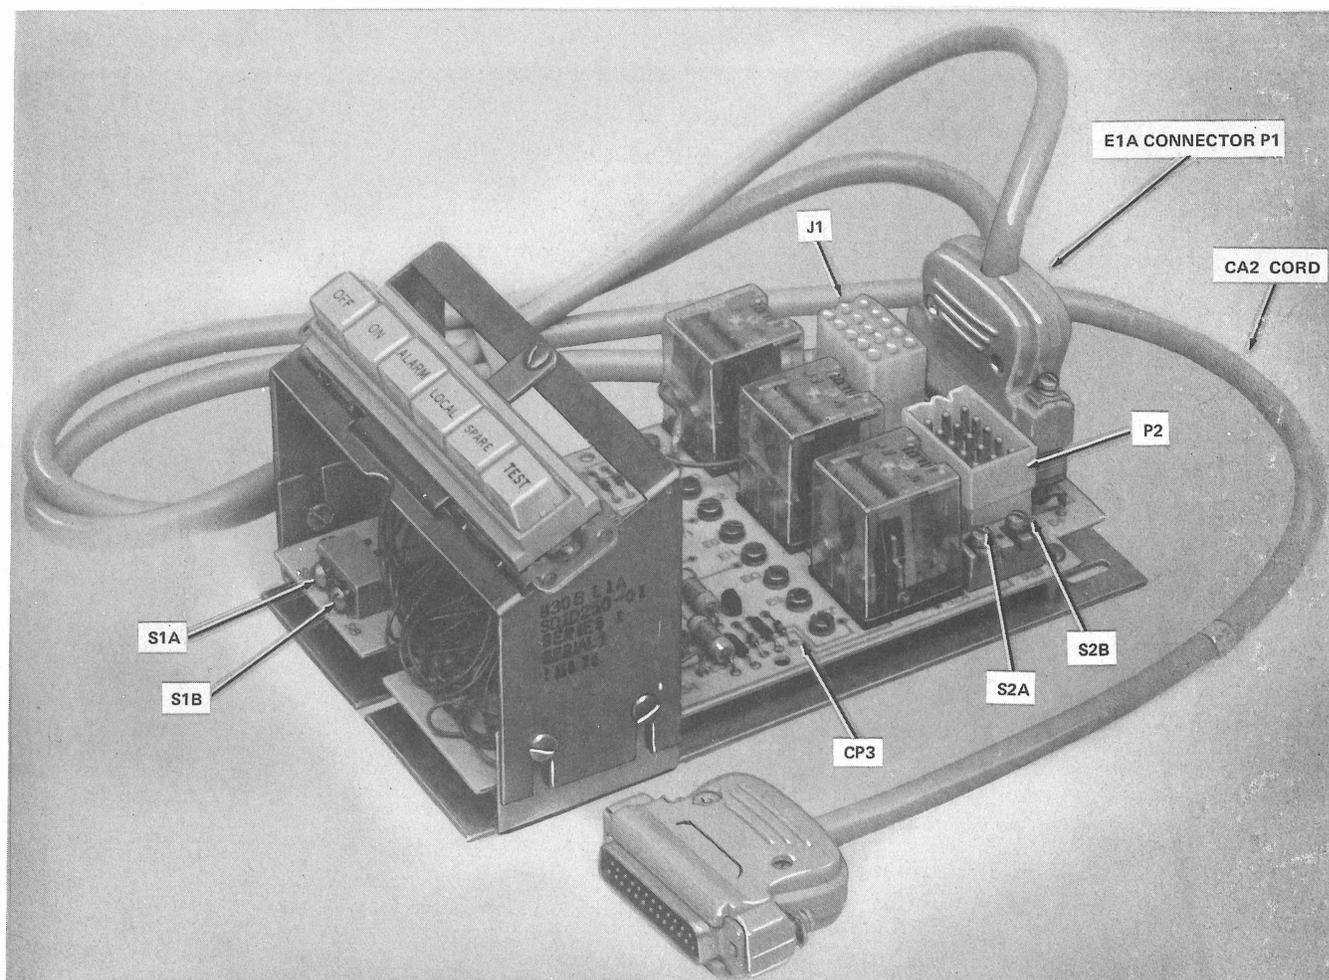
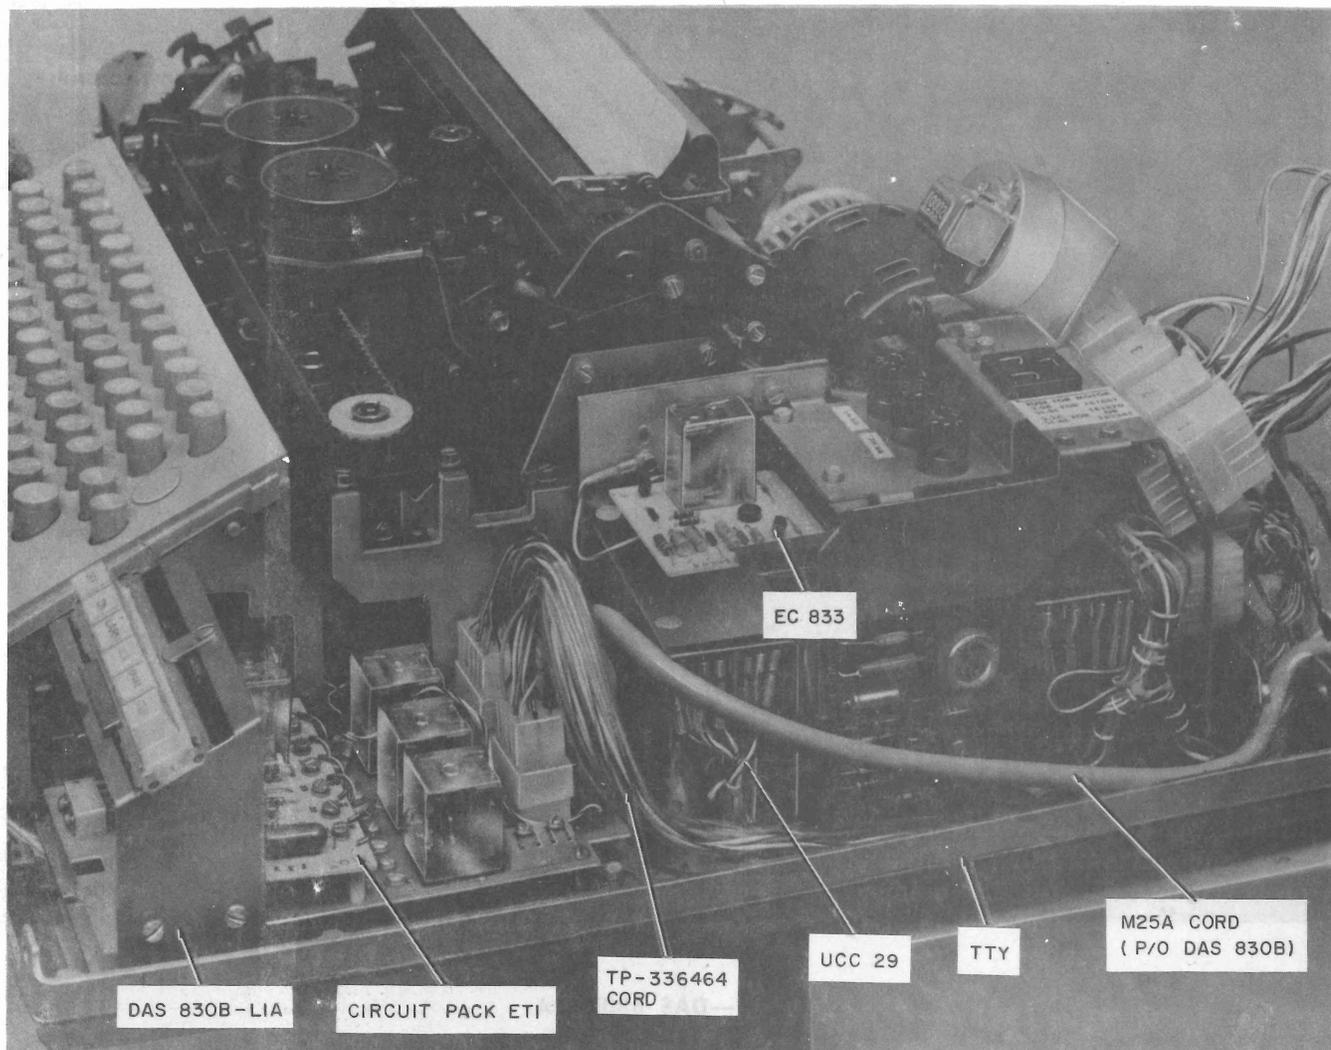

Fig. 6—DAS 830B-L1A
Fig. 7—DAS 830B-L1A Mounted in TTY
2.07 DAS 830B-L1A (Fig. 6) is a 6-button key unit designed for mounting under the faceplate of the TTY in front of the UCC29 (Fig. 7). The